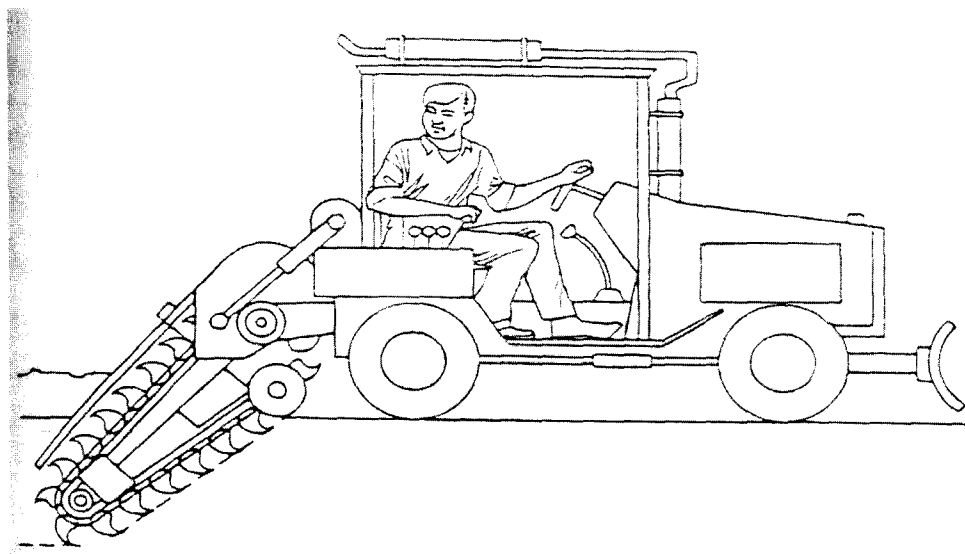
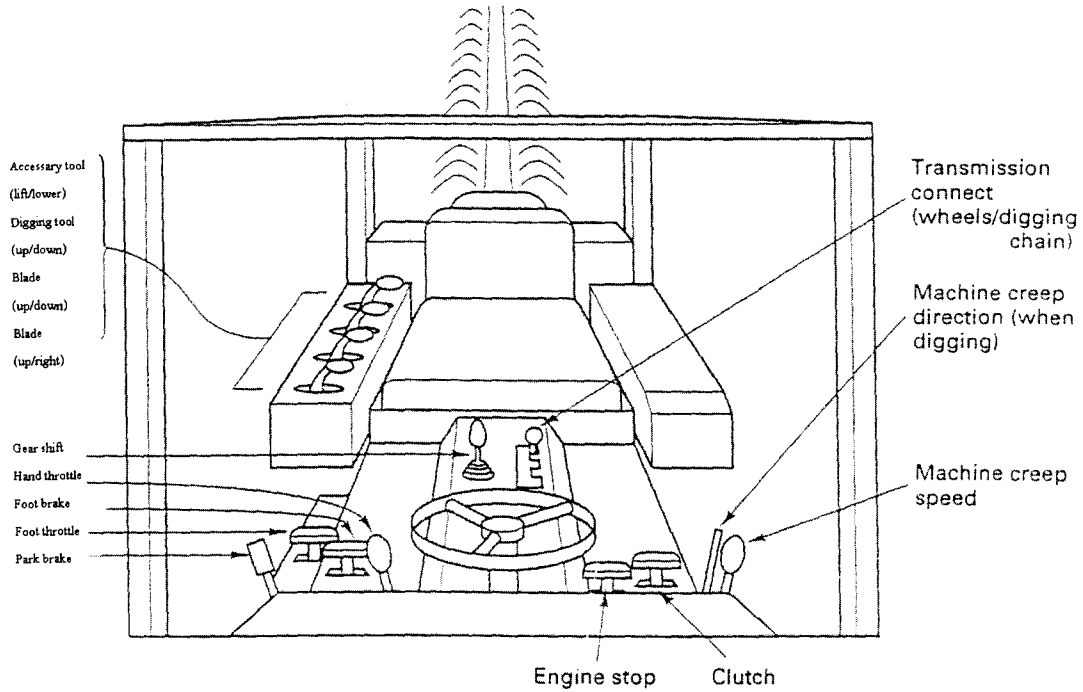
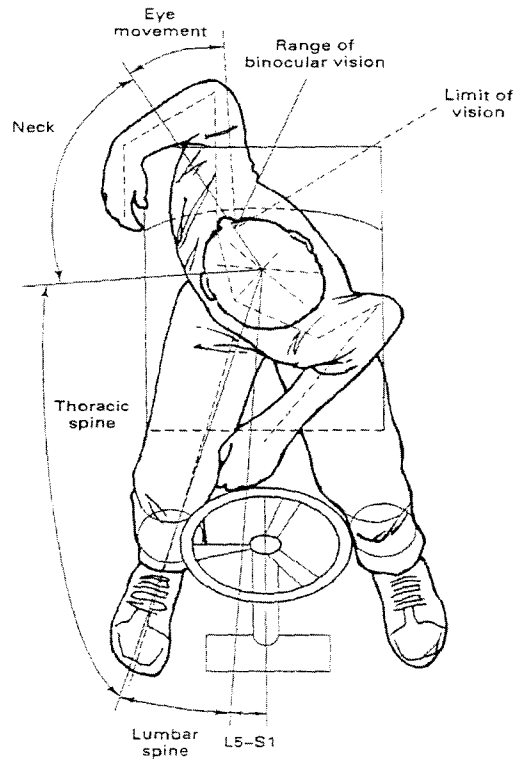

Figure 1: A trencher and working area.
Figure 2: Frontal view of the trencher cab.
Figure 3: Contorted body posture of the trencher operator looking at the trenching equipment.
2. An ergonomist described the ergonomic design challenges associated with a trencher (as shown in Figure 1). The machine moves forward, and the operator sits in a position to look in that direction, but the trenching tool is attached to the rear of the machine---see Figure 1. To observe the trenching operation, the operator must rotate trunk and neck nearly 180 degrees---see Figure 3. While all the regular controls to move the vehicle are located, as is common, in front of the operator, the controls for operating the trenching attachment are located to the side---see Figure 2.